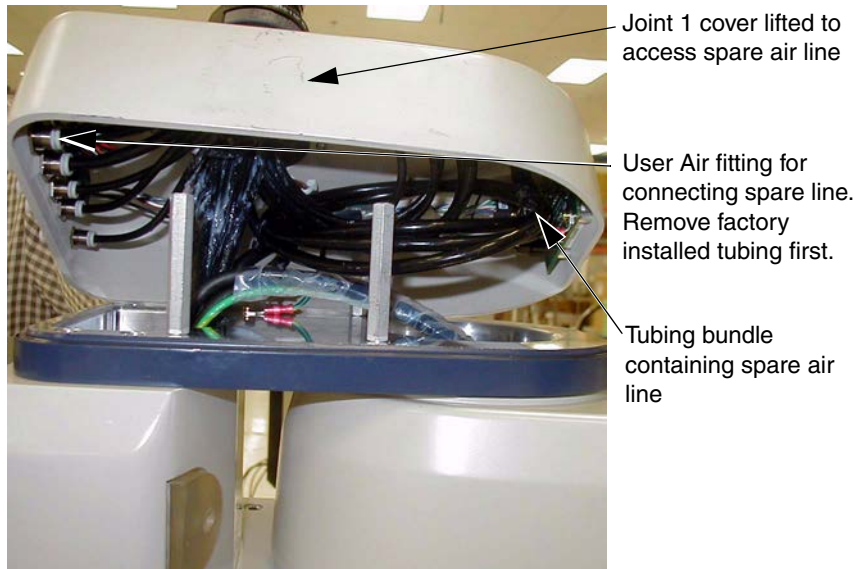

Figure 6-12. Connecting Spare Air Line to User Connector
12. Remove the four screws for the Joint 1 cover and lift the cover up so you have access to the tubing under the cover. See Figure 6-12.
13. Disconnect the tubing from the 6 mm User Air fitting shown in Figure 6-12. Fold the tubing out of the way and restrain using cable ties.